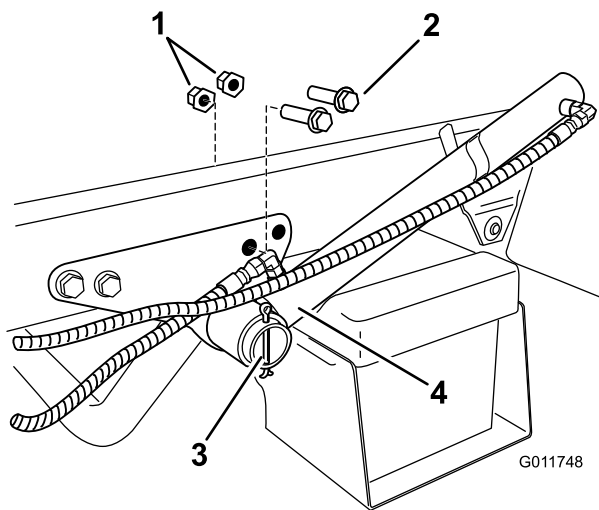

Figure 17
1. Locate and remove the two rear bolts and flange nuts on the lift cylinder bracket (Figure 17). Retain the fasteners for later use.